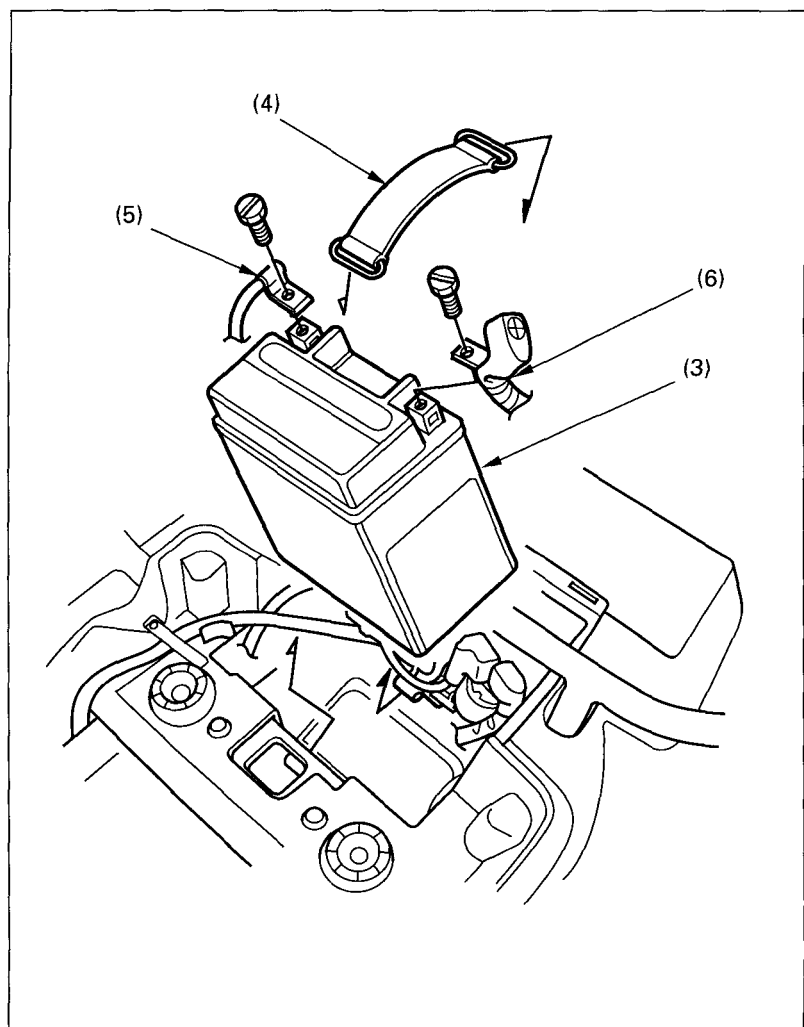

Fig. 4-20
4. Release the rings and remove the rubber band (4). (Fig.4-20)
5. Disconnect the negative (-) terminal lead (5) from the battery (3) first, then disconnect the positive (+) terminal lead (6).